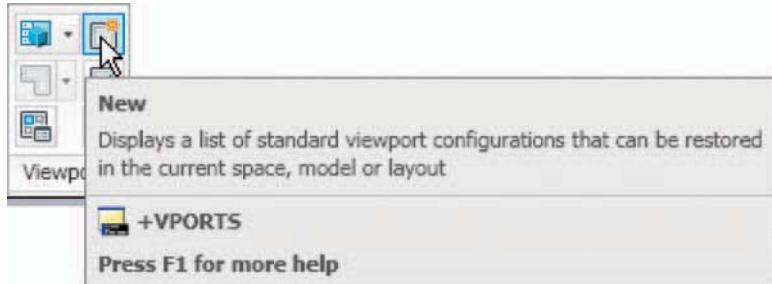
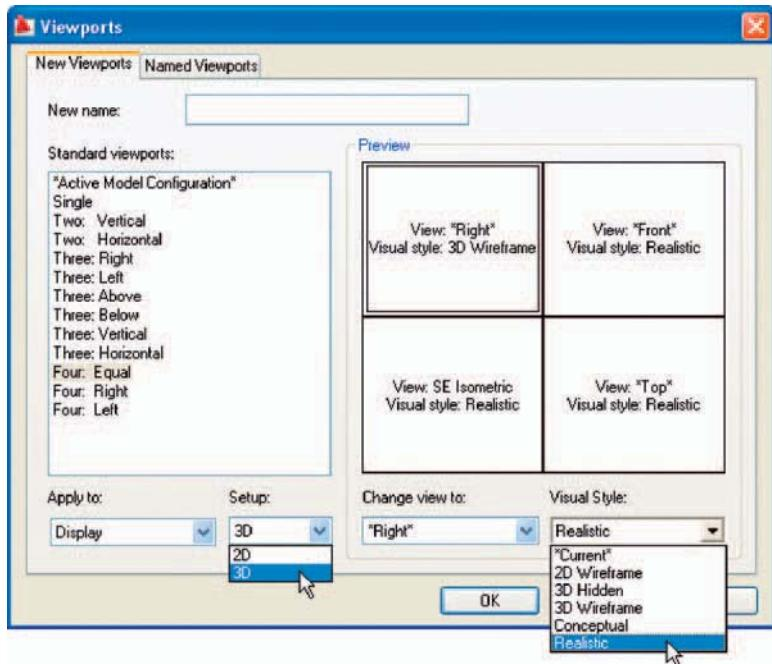

Fig. 13.1 Selecting **New** from the **View/Viewports** panel
Fig. 13.2 The **Viewports** dialog
1. In a **3D Modeling** workspace click **New** in the **View/Viewports** panel (Fig. 13.1). The **Viewports** dialog appears (Fig. 13.2).